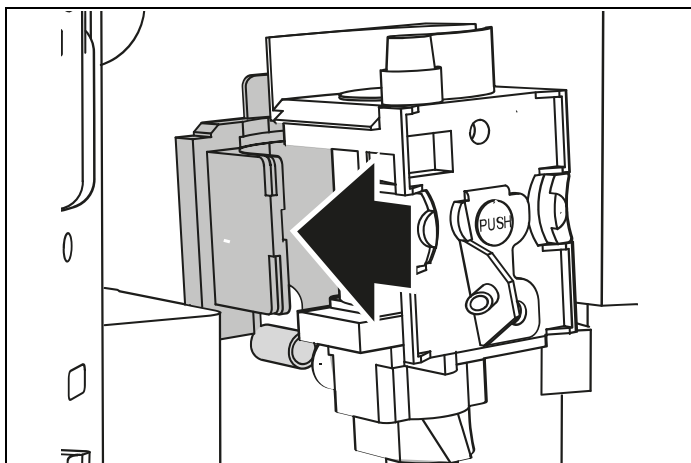

Fig. 49
- 2) After cleaning, replace the infuser (**A5**) by sliding it onto the internal support and pin at the bottom, then push the PUSH symbol fully in until it clicks into place (Fig. 49).